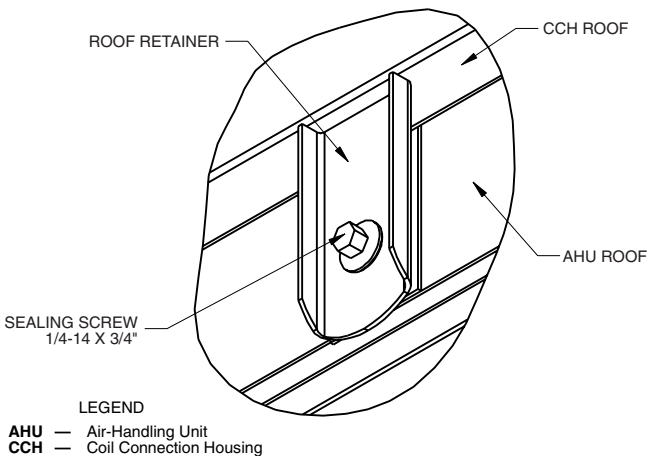

Fig. 44 — Secure the Coil Connection Roof to the Air Handler Roof
10. Secure the coil connection housing roof to air-handling unit roof using the panel retainers and retainer screws as shown in Fig. 44. Note that the view is from underneath the roof. The retainers are rotated 180 degrees and hold the coil connection housing roof to the side of the air-handling unit. These are the same style retainers used to hold the air-handling unit panel in place during shipment.